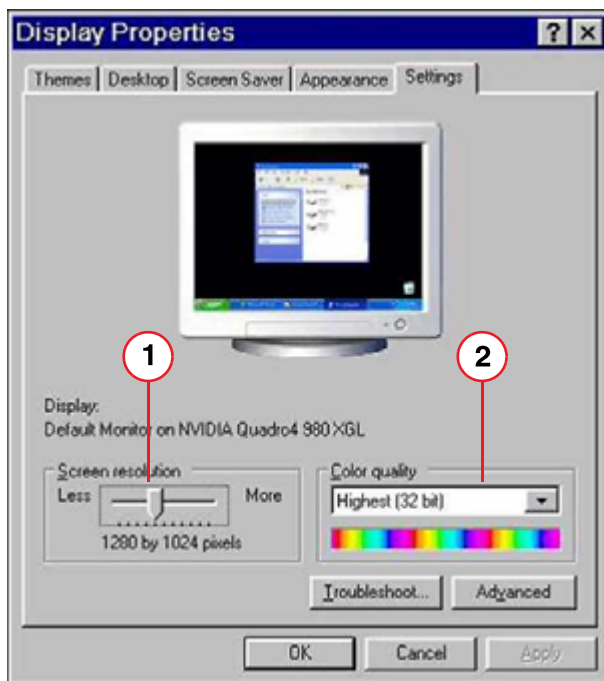
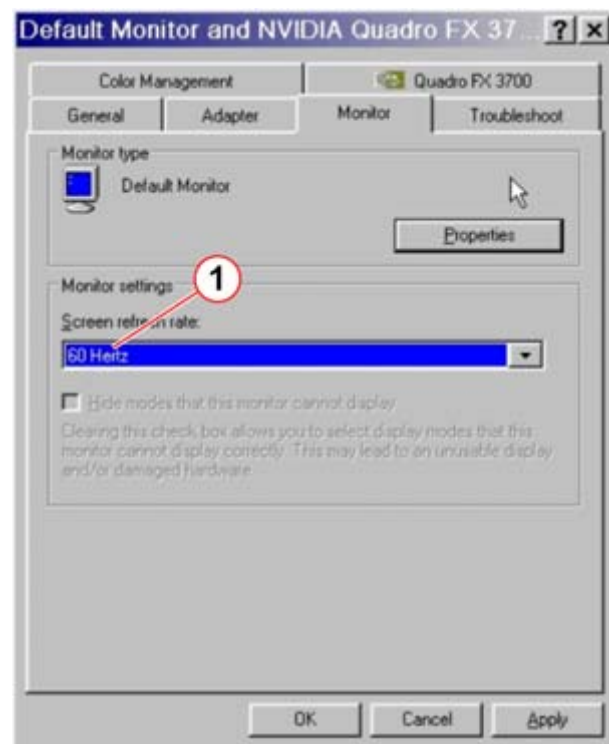

Fig. 57: VESA mode
Fig. 58: Screen refresh rate
- Check **VESA mode 1280 x 1024** (Fig. 57 / p. 78)
- Check the **screen refresh rate of 75 Hz** (Fig. 58 / p. 78) (60 Hz for TFT's)
The type of pop-up window depends on the type of graphics card used. It can differ from the examples (Fig. 57 / p. 78) and (Fig. 58 / p. 78)